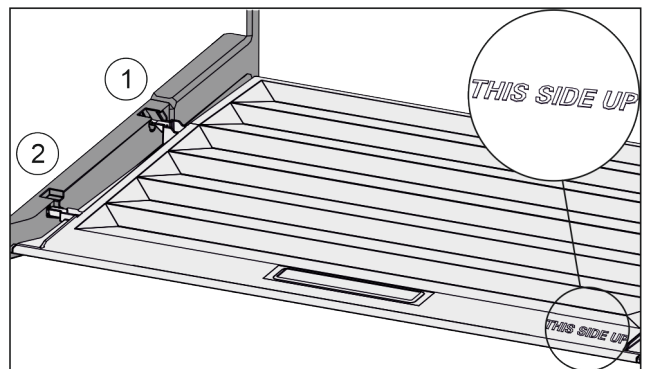

Fig. 153
- ▶ Insert the lip of the cover over the opening of the rear bracket *Fig. 153 (1)* and click into place *Fig. 153 (2)*.